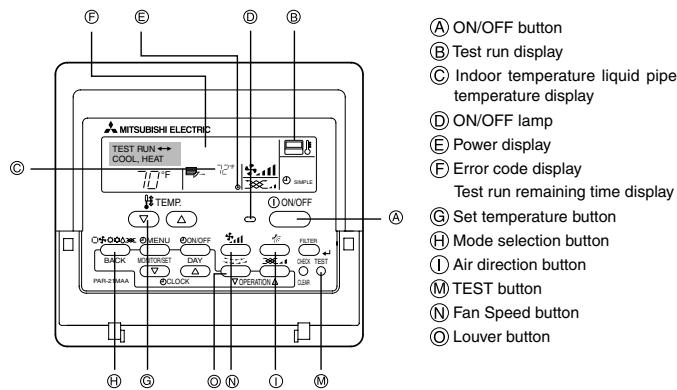

Fig. 6-1
① Refrigerant piping of the main unit
② Drain piping of the main unit
③ Position of the corner panel when sent from the factory (logo attached).
④ Position of the levers on the intake grille when sent from the factory.
6. Test run (Fig. 6-1)
Using wired remote controller (Fig. 6-1)